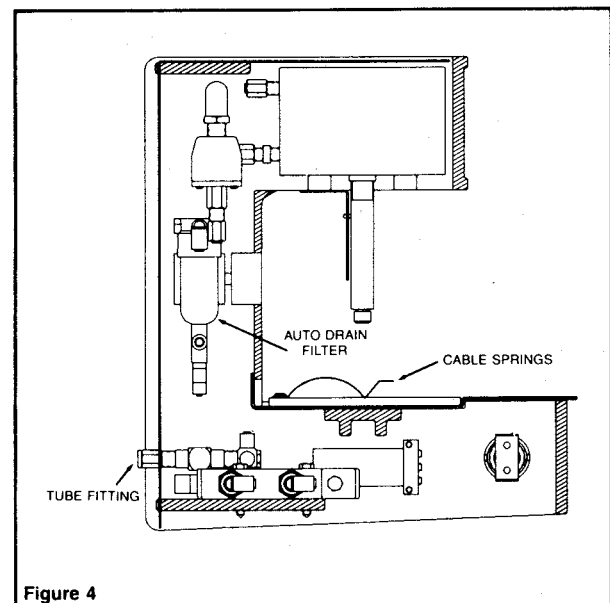

Figure 4
1. Locate the tube fitting extending from the back of the press. (See Figure 4)
4. Position the cable springs over the cable to hold long cables if needed. (See Figure 4)